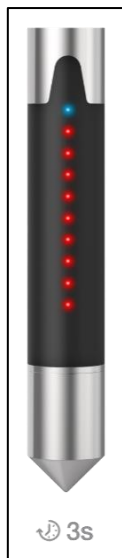

Figure 6
2. All LED's are turned on for 3s (Figure 6) to check their function.
4. The LEAKPEN now switches to the measuring mode (ON) (see chapter 4.2 Measurement mode (ON)).